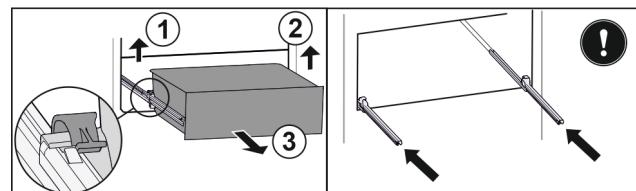

Fig. 106
- ▶ Lift left clamp and simultaneously pull drawer forwards on the left. Fig. 106 (1)
- ▶ Lift right clamp and simultaneously pull drawer forwards on the right. Fig. 106 (2)
- ▶ Remove drawer to the front. Fig. 106 (3)